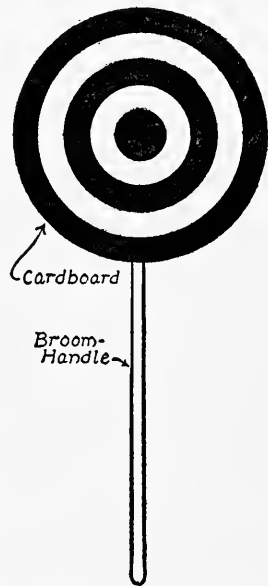

FIG. 240.—A Simpler Target.
**A Simpler Target**, and a scheme which will answer a boy's purpose, if he does not care to go to the trouble of making the hoop target, is shown in Fig. 240. A circular piece of cardboard, with five rings painted upon it, is tacked to the end of a broom-handle, and this is stuck into the ground.